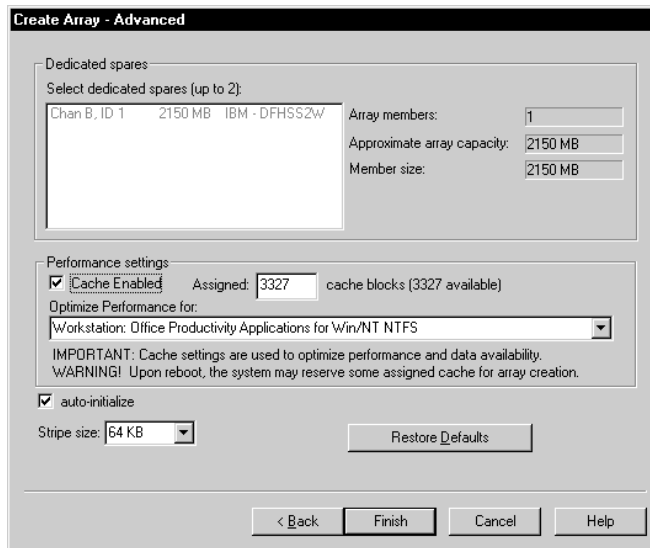

Figure 5-5. Create Array - Advanced Dialog Box
- 9 Click **Next**. The Create Array - Advanced dialog box appears, as shown in Figure 5-5.